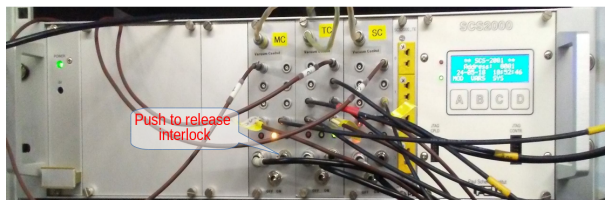

Figure 3.13: The HV interlocks for the SC, TC and MC.
4. There are three HV interlocks to prevent application of HV when the vacuum level in the SC, TC or MC is above 10^{-6} mbar (see Fig. 3.13). Once the vacuum level is below this value, you will be able to reset the respective interlock in each chamber. Simply press on the corresponding *black push button* to release the interlock. The light on these interlocks is red when the vacuum level is above 10^{-6} mbar. It turns orange when the vacuum reaches the required level, and becomes green when the interlock is released.
14. Wait until the pressure drops to below 10^{-6} mbar and reset all HV interlocks (see Fig. 3.13).
9. Make sure that the moderator temperature and the pressure in MC stabilizes. Wait until the pressure drops to below 10^{-6} mbar and reset all HV interlocks (see Fig. 3.13).